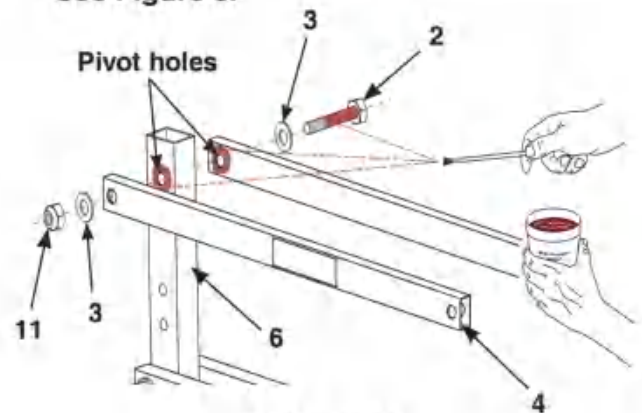

Figure 8
12. Grease mast pivot hole and the 5-1/2" cap screw (2). **See Figure 8.**
13. Assemble 5/8" washer (3) on the 5-1/2" cap screw (2); then install into upper lift arm (4) and mast (6) pivot holes as shown. **See Figure 8.**
14. At the opposite side, install a 5/8" washer (3) and locknut (11) onto the inserted cap screw. **See Figure 8.**